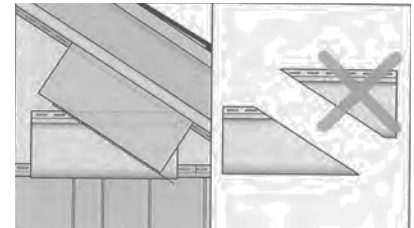

Fig.19
**NOTE: PANELS MUST BE INSTALLED FROM RIGHT TO LEFT. Do not nail tight. Allow 1/4" into all channels, posts and stops. Make a template for gable angle by locking a short piece of siding into the gable starter course. Hold a second piece against the gable finish trim. Mark angle on first piece and cut (see Figure 19). Make templates as needed.**